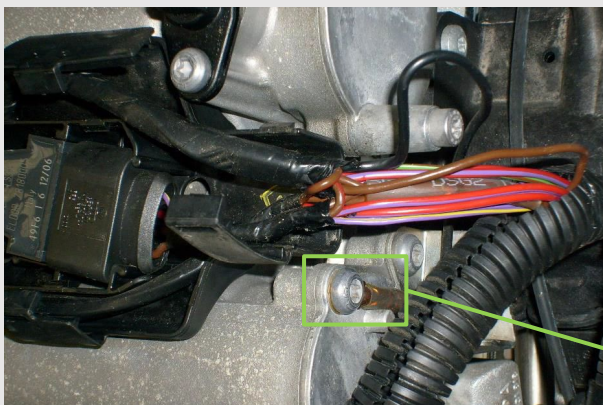

Fig. 3
- Check the ground line fixation for any dirt or looseness as shown in **Fig 3**, repair if need.
- Always tighten & clean the engine ground line which provide ground line to **pin 2** (Fig.3) . Fault in ground line fixation may cause misfire or no start.